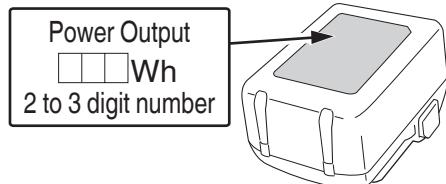

Fig. 5
- Lithium-ion batteries that exceed a power output of 100 Wh are considered to be in the freight classification of Dangerous Goods and will require special application procedures. (Fig. 5)